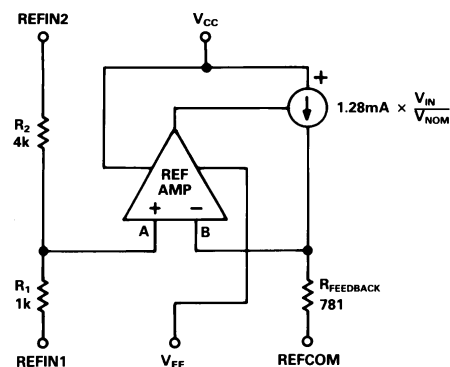
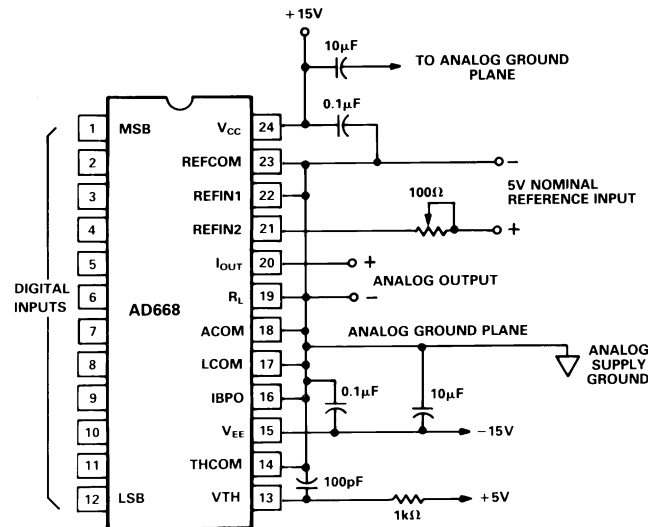

Figure 5. Equivalent Analog Input Circuitry
Figure 7. 5 V REFIN/1 V Unbuffered Unipolar Output
The reference input buffer can be viewed as a resistive divider connected to one terminal of an op amp, as shown in Figure 5. A unit DAC current source drives a resistor to produce a voltage that is fed back to the opposite terminal of the op amp. Resistor  $R_{FEEDBACK}$  is laser-trimmed to ensure that a 1 V input to node A of the op amp will produce a 10.24 mA DAC output.  $REFIN1$  and  $REFIN2$  may be configured in any way the user chooses to provide a nominal input full scale of 1 V at node A.  $R1$  and  $R2$  are sized and trimmed to provide both a 5:1 voltage divider and a parallel impedance that matches the impedance at node B, thereby reducing the amplifier offset voltage due to bias current. The resistive divider is trimmed with an external  $50 \Omega$  resistor in series with the 4k leg ( $R2$ ). This provides a gain trim range of  $\pm 1\%$  using a  $100 \Omega$  trim potentiometer (Figure 7). If trimming is not desired, a  $50 \Omega$  resistor may be used in place of the potentiometer to produce the specified gain accuracy, or the resistor may be omitted altogether to produce a nominal gain error of  $+1\%$ .
**REFCOM** – this node provides the reference ground for the reference amplifier's current feedback loop (as illustrated in Figure 5) as well as providing the negative supply voltage for most of the reference amplifier. The current consists of 1.2 mA of analog input dependent current and another 3 mA of input independent current. Analog input voltages should always be produced with respect to this voltage.
**REFIN1** – has a 1k series resistance to the reference amplifier input and a 5k series resistance to REFIN2. REFIN1 may be used in conjunction with REFIN2 to provide a 5:1 voltage divider, or the two may be driven in parallel to provide a high impedance input node (see Figure 5).
Figure 7 shows a typical topology for generating an unbuffered voltage output. RL (Pin 19) is grounded, producing a 100 Ω
The input divider has been connected to produce a 5 V full scale reference input by shorting REFIN1 to the analog ground plane and using REFIN2 as the reference input. With a 5 V nominal full scale, the 10% to 120% reference input range falls between 0.5 V and 6 V. The effective input resistance in this mode is 5 kΩ (±20%). The ratio of the input divider has been intentionally skewed by 50 Ω to provide an optional external fine trim for gain adjust. A trim range of ±1% is provided by the 100 Ω trimming potentiometer shown in Figure 7. If trimming is not desired, a 50 Ω resistor may be used in place of the potentiometer to produce the specified gain accuracy, or, if a +1% nominal gain error is tolerable, the resistor may be omitted altogether.